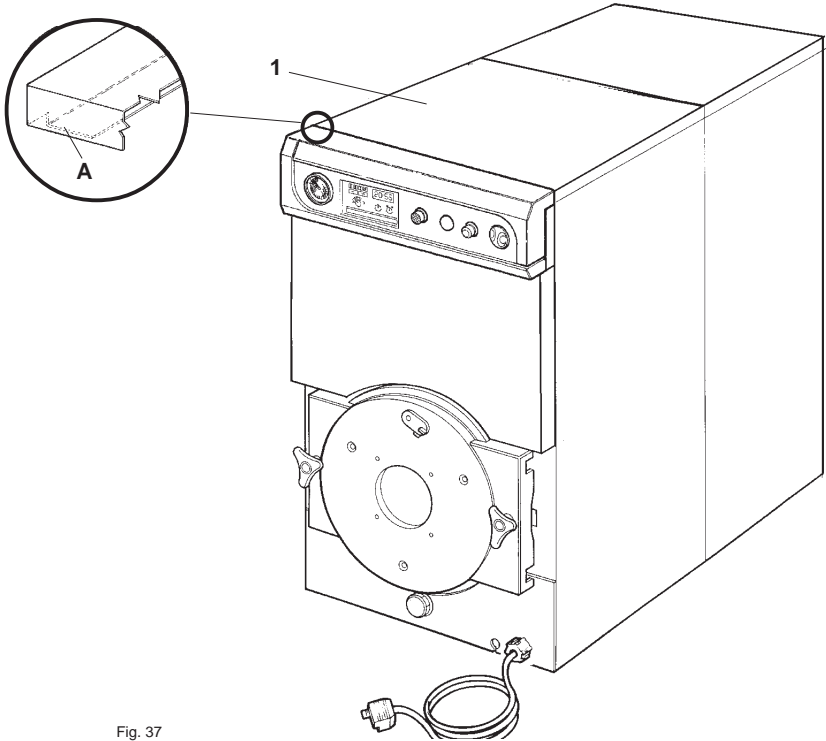

Fig. 37
5.15 (Fig. 37) Mount upper front panel 1.